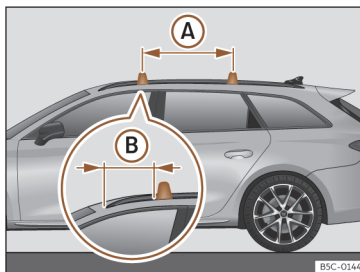

Fig. 137 Mounting points for the roof bars for the roof rack (Leon Sportstourer).
The crossbars are assembled on the roof railings >>> **Fig. 137**. The distance between cross bars (A) should be approx. 75 cm and the distance between the front bars and the front bracket of the side roof bar (B) should be 30 cm.